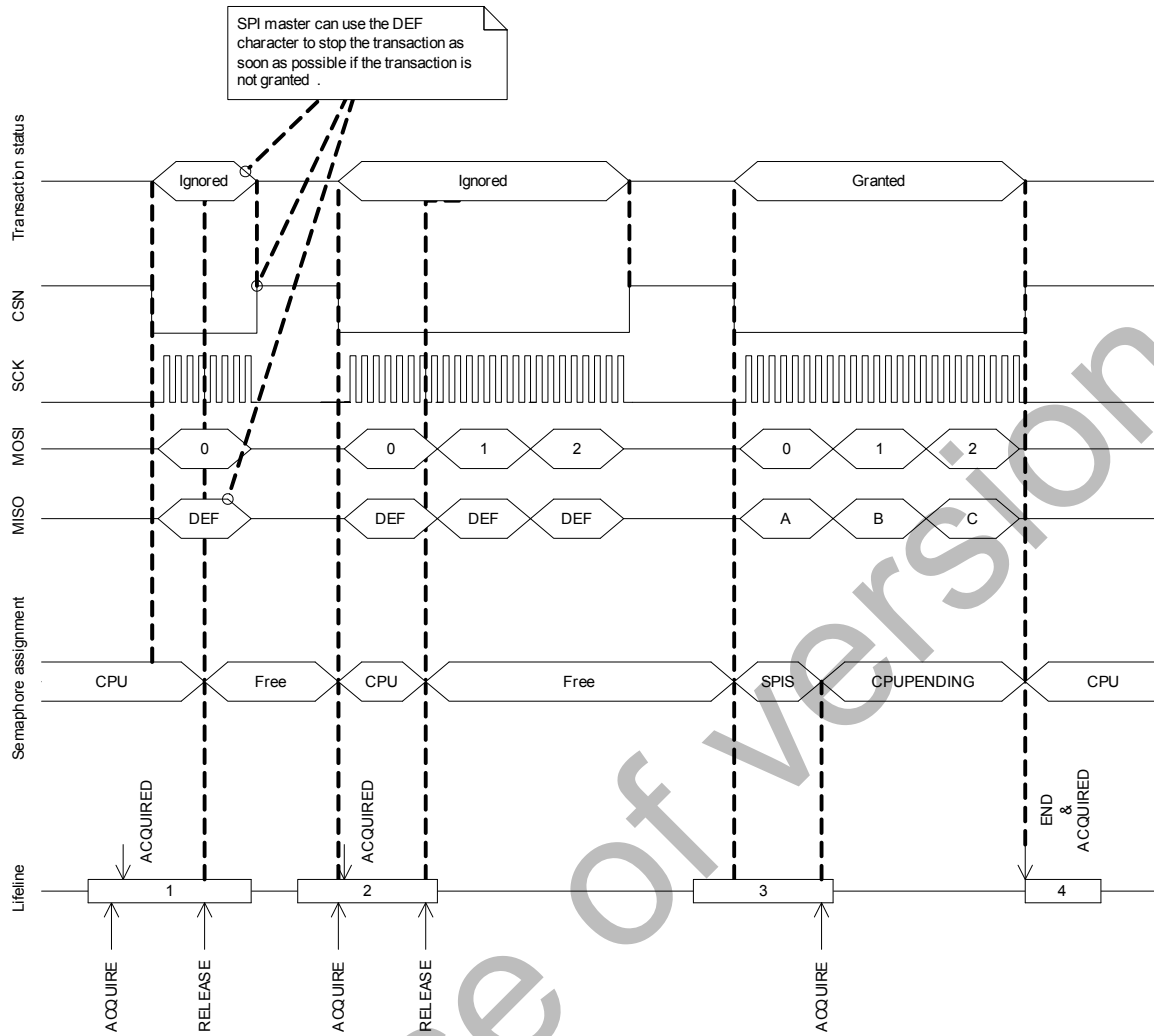

Figure 60 SPI transaction when shortcut between END and ACQUIRE is enabled.
Before the CPU can safely update the RXDPTR and TXDPTR pointers it must first acquire the SPI semaphore. The CPU can acquire the semaphore by triggering the ACQUIRE task and then receiving the ACQUIRED event. When the CPU has updated the RXDPTR and TXDPTR pointers the CPU must release the semaphore before the SPI slave will be able to acquire it. The CPU releases the semaphore by triggering the RELEASE task. This is illustrated in *Figure 60 on page 138*. Triggering the RELEASE task when the semaphore is not granted to the CPU will have no effect.
The SPI slave will try to acquire the semaphore when CSN goes low. If the SPI slave does not manage to acquire the semaphore at this point, the transaction will be ignored. This means that all incoming data on MOSI will be discarded, and the DEF (default) character will be clocked out on the MISO line throughout the whole transaction. This will also be the case even if the semaphore is released by the CPU during the transaction. In case of a race condition where the CPU and the SPI slave try to acquire the semaphore at the same time, as illustrated in lifeline item 2 in *Figure 60 on page 138*, the semaphore will be granted to the CPU.